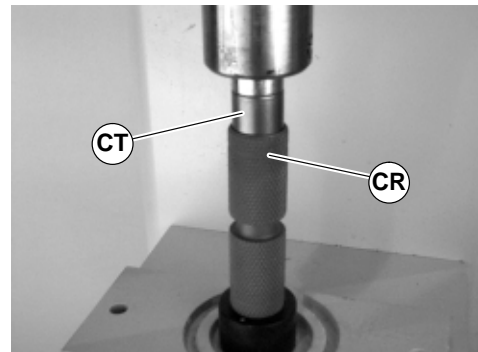

Figure 46
4. Press bearing (CT of Figure 46) into pulley (CR) until seated.